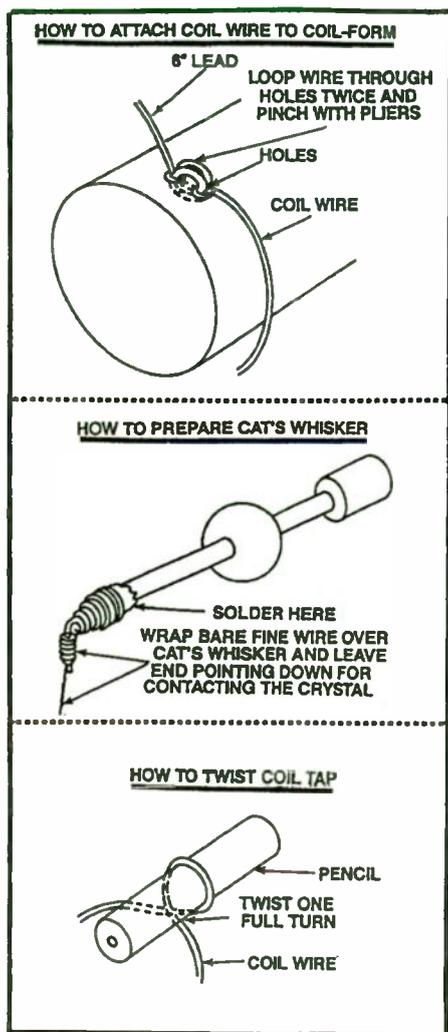

Figure 1: Detailed drawings
STEP 2. Punch two small holes in the coil form 1/4 inch apart and 1/2 inch from one end. Pass 6 inches of the 22 AWG coil wire through one hole from the outside and back through the other. Repeat this process once more and pinch the resulting loops with pliers to secure the coil lead. (Refer to Figure 1)
**STEP 3.** Wind five turns, close but not overlapping, and make a tap by looping the coil wire around a pencil or other round object. Twist the loop once to secure it and wind five more turns and make another tap. Repeat this process and make additional taps on the following turns: 15, 20, 25, 30, 40, 50, 60, 70, 80, and 90. Punch two holes at the end of the coil form as in step two and secure the end of the coil wire after the 90th turn. No lead is needed at this end of the coil. (Refer to Fig. 1 and Photo 1)
STEP 9. (Refer to Figures 1 and 2)